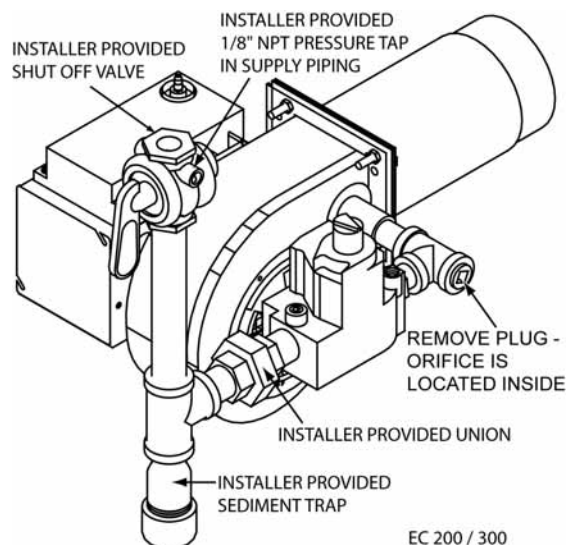

Figure 6: Piping Connections
CAUTION: The available gas pressure should be within the limits shown in the SPECIFICATIONS section. Excessive pressure will damage the Combination Gas Valve and Regulator. If the supply pressure exceeds the 14.0" W.C. maximum, a suitable intermediate main regulator must be installed ahead of the Main Manual Shut-Off Valve shown in Figure 6.
- Provide a sediment trap, union and 1/8" pressure tap in piping close to burner as shown in Figure 6.
- If the burner piping must be rearranged because of space limitations, be sure to carry out the general arrangement shown in Figure 6. The Combination Gas Valve will operate and can be installed in any position except up-side down.
- To change the orifice, turn off the Main Manual Shut-Off Valve and the main electric to the burner. Refer to piping diagram, Figure 6, to locate the orifice location if required.